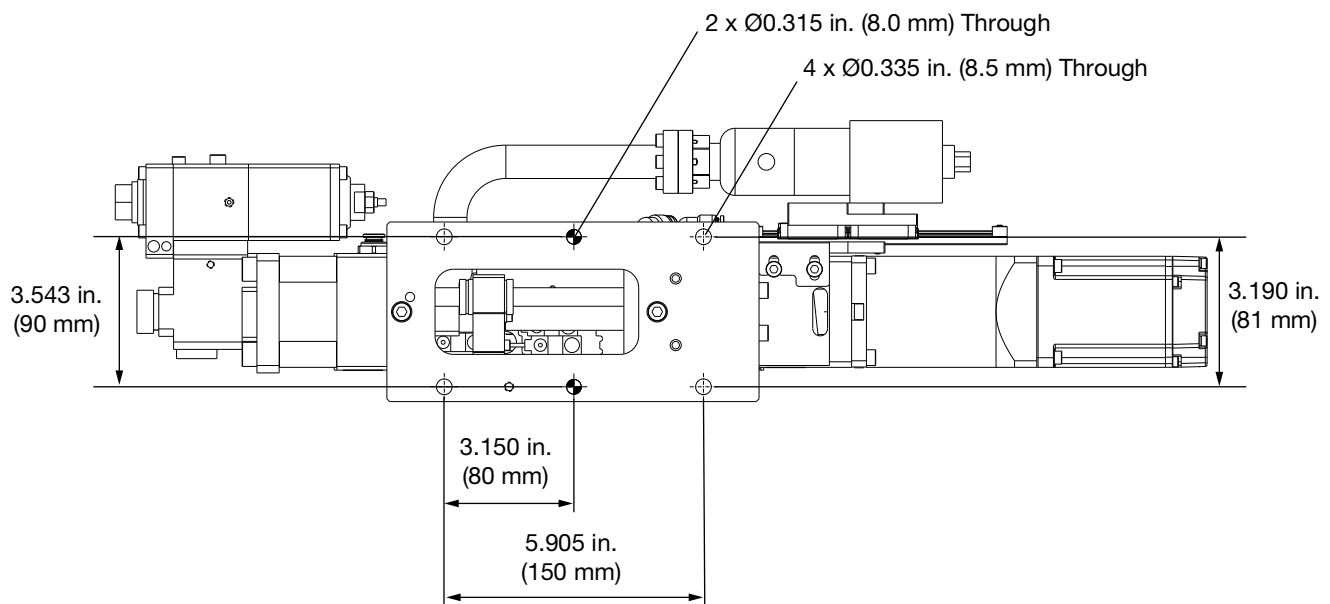
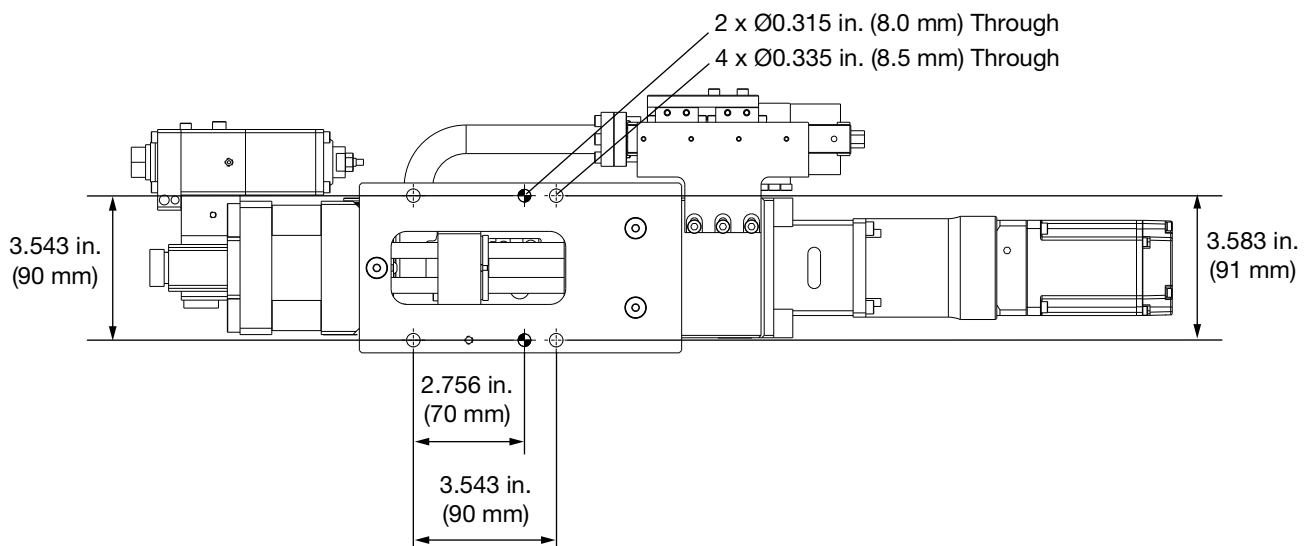
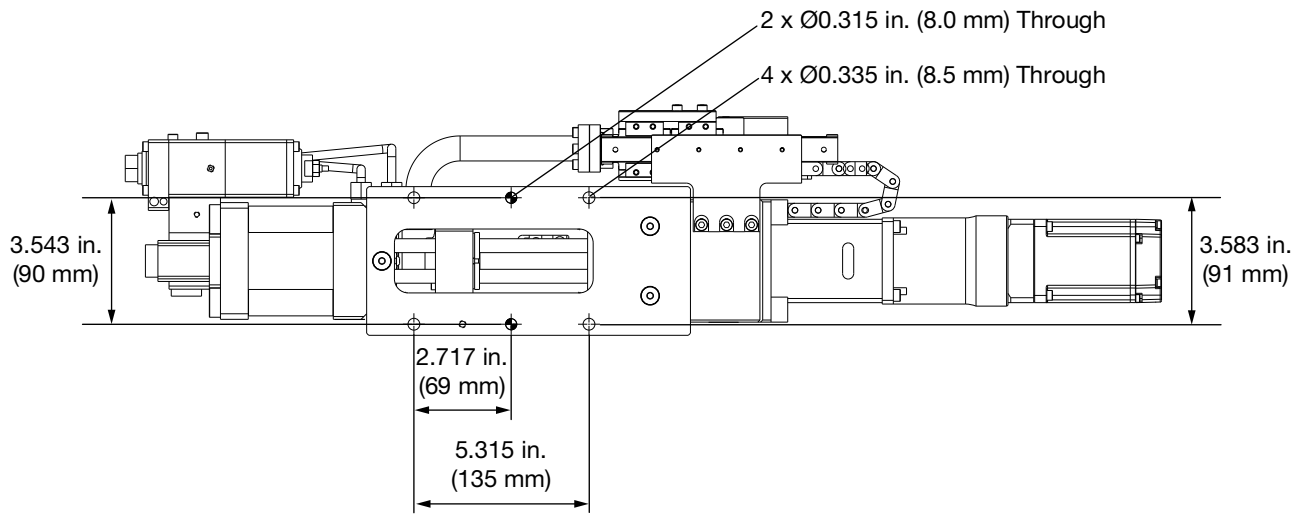

FIG. 4: Mounting Hole Dimensions for Installing the PSM Metering Unit - 25cc
FIG. 5: Mounting Hole Dimensions for Installing the PSM Metering Unit - 50cc
FIG. 6: Mounting Hole Dimensions for Installing the PSM Metering Unit - 100cc
3. Attach the PSM Installation Plate (AC, page 9) to the selected location by installing fasteners (not provided with the PSM metering Unit) through the four mounting holes. There are also two position pin holes. Refer to FIG. 4, FIG. 5 or FIG. 6 for mounting hole dimensions.